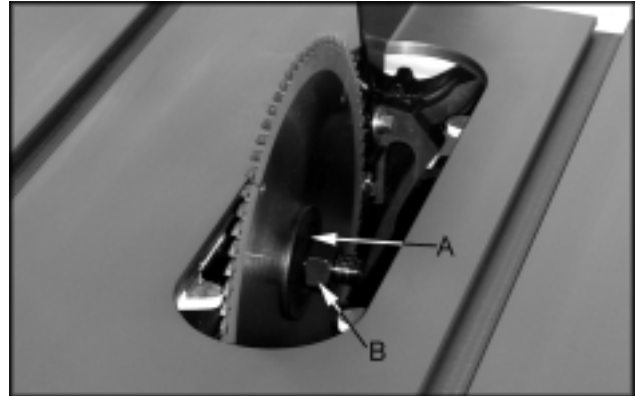

Fig. 7
3. Place the blade on the arbor shaft making sure the teeth point down at the front of the saw. Replace the flange (A, Fig. 7) and the arbor nut (B, Fig. 7).